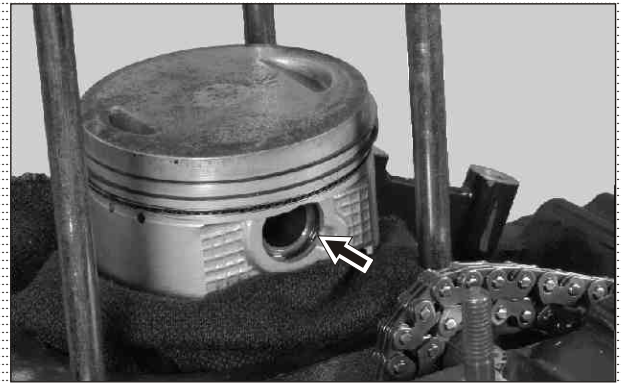

Fig. 3.86
- Place a clean cloth in the crankcase assembly bore to prevent the falling of circlip piston pin inside the crankcase while removing. (Fig. 3.86)
- Remove circlip piston pin from any one side of the piston. (Fig. 3.86)